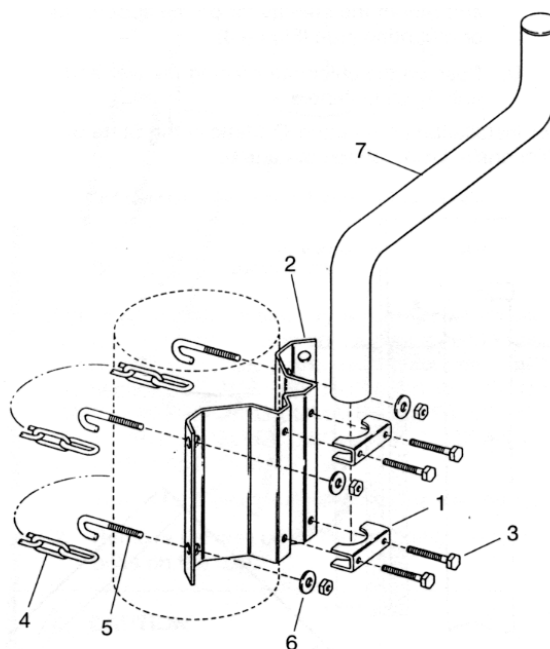

Figure 1
A. Install the casing mount on the well (Figure 1):